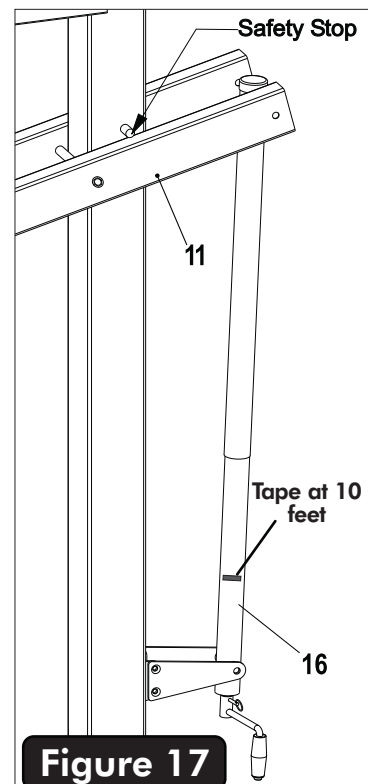

Figure 17
- 30.** Lower backboard all the way down. Do not force actuator once backboard is in it's lowest position. See **Figure 17**.